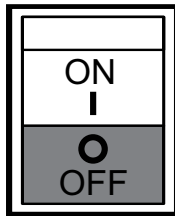

Figure 19. Idle Control Switch (OFF)
- Place idle control switch (Figure 19) in the **OFF** position. This will allow the engine speed to run at about 3600 RPM's.
Placing the idle control switch in the **OFF** position (Figure 19) allows the engine to operate at a maximum speed of about 3600 RPM's.